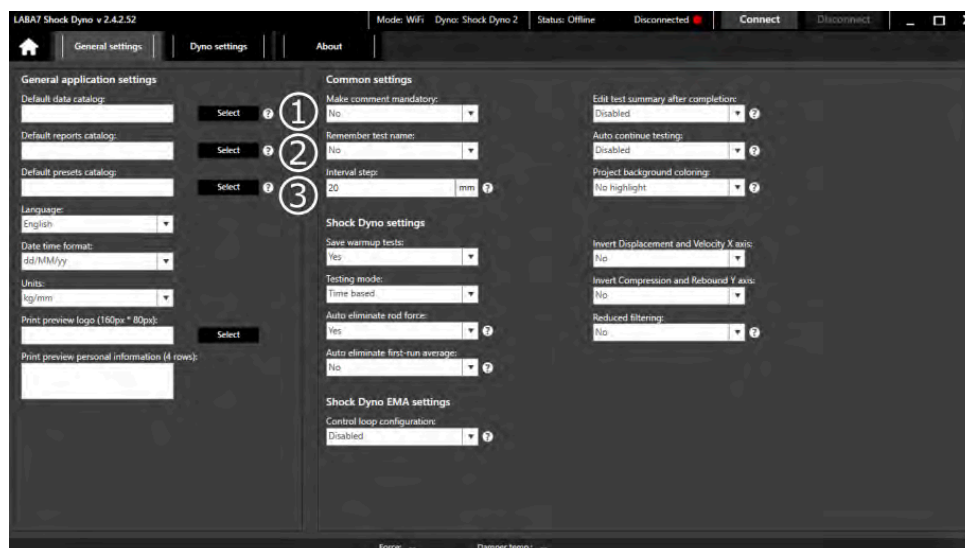

Figure 16
3. Select the default data catalog, default reports catalog and default preset catalog, these are the catalogs, where all of your test project files, reports and presets will be saved (Figure 16 – Step 1, Step 2, Step 3).